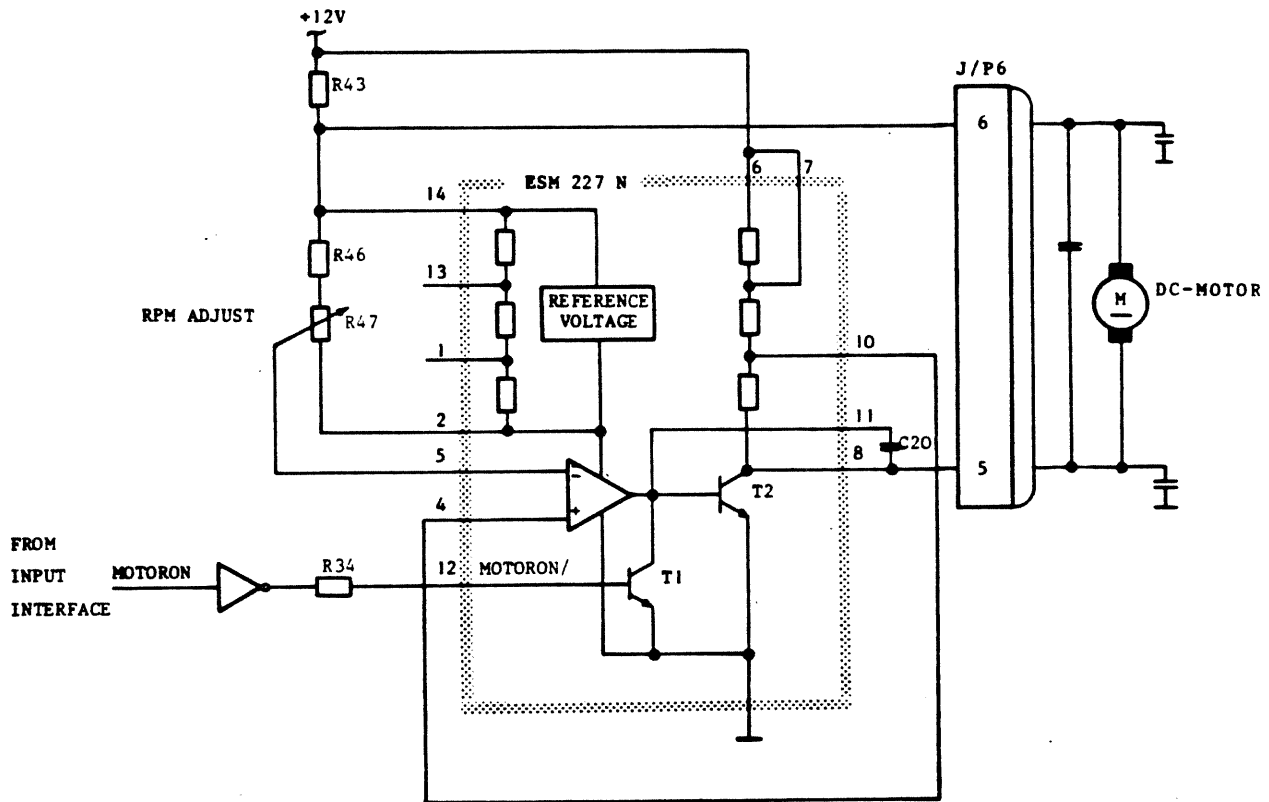

FIGURE 2 - 18 . DRIVE MOTOR CONTROL
2.2.4. HEAD LOAD LOGIC (Fig.2 - 19)